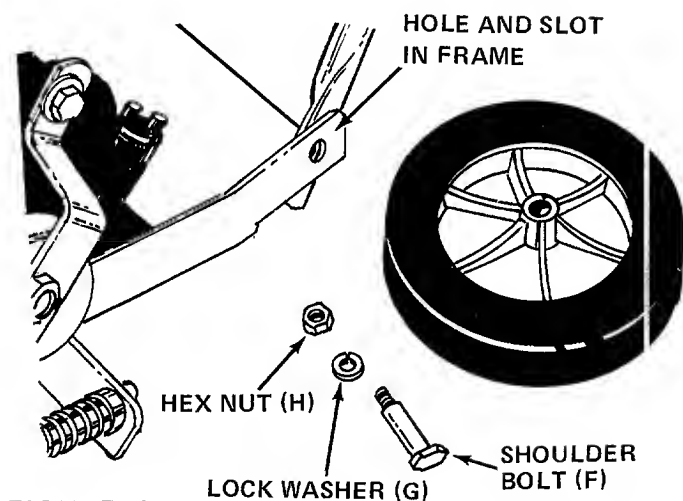

FIGURE 2
- M (1) Hex Bolt 5/16-18 x 1.75" Long
- N (1) Compression Spring
- O (1) Flat Washer
- P (1) Hex Center Lock Nut 5/16-18 Thread
- Q (2) Hex Bolts 1/4-20 x 1.25" Long
- R (4) Hex Center Lock Nuts 1/4-20 Thread
- S (2) Hex Bolts 1/4-20 x 1.00" Long
- T (3) Grips
- U (1) Self-Tapping Screw
2. Line up holes in lower handle with holes in frame. Secure rear wheels (larger) and lower handle to frame with shoulder bolts (F), lock washers (G) and hex nuts (H). See figure 2.